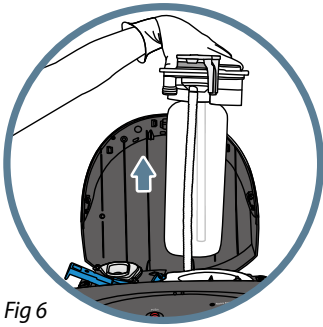

Fig 6
7. Pull up on the SmartFlo™ water cartridge (Fig 6). Do not squeeze